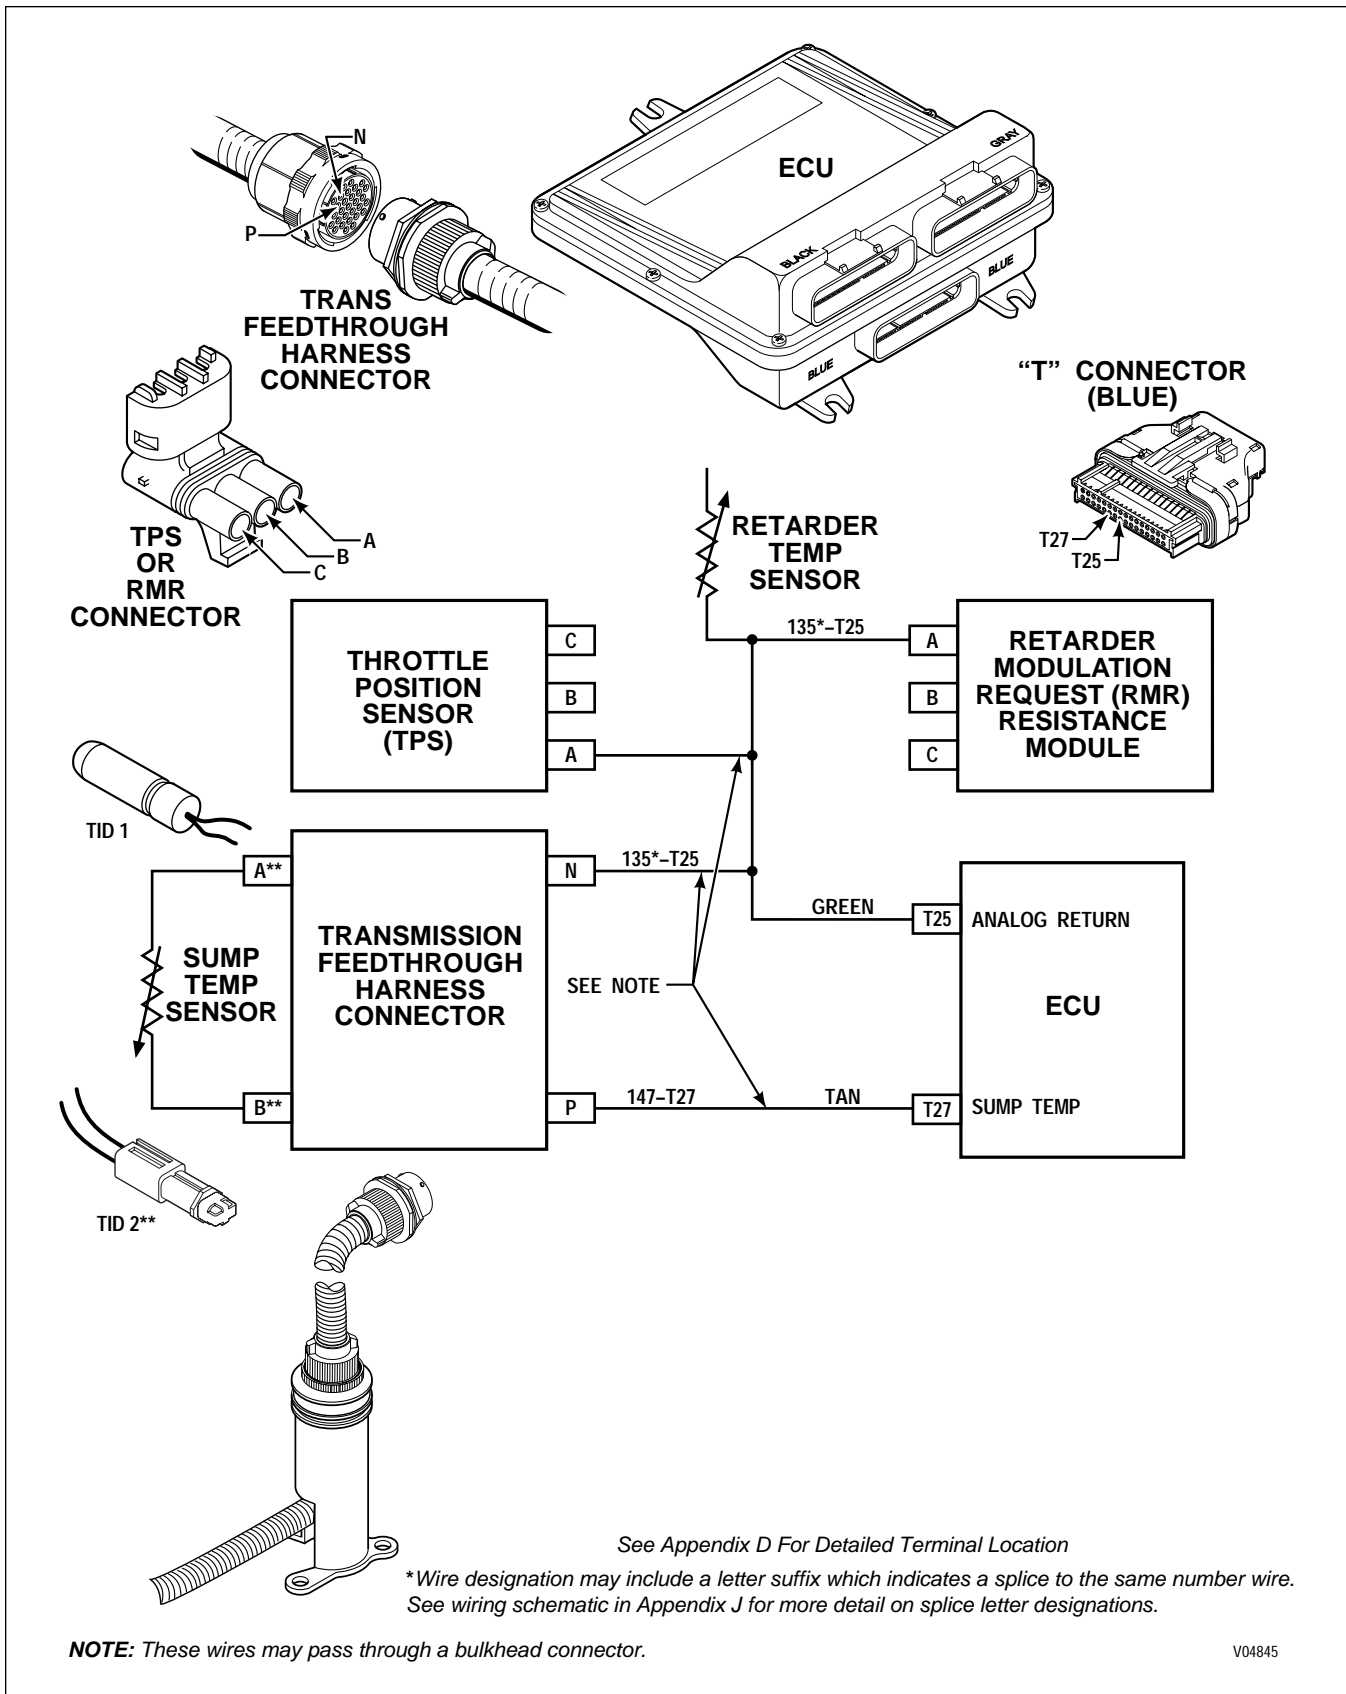

Figure 6-7. Code 24 Schematic Drawing
**CODE 24 XX — SUMP FLUID TEMPERATURE** (Figure 6-7)